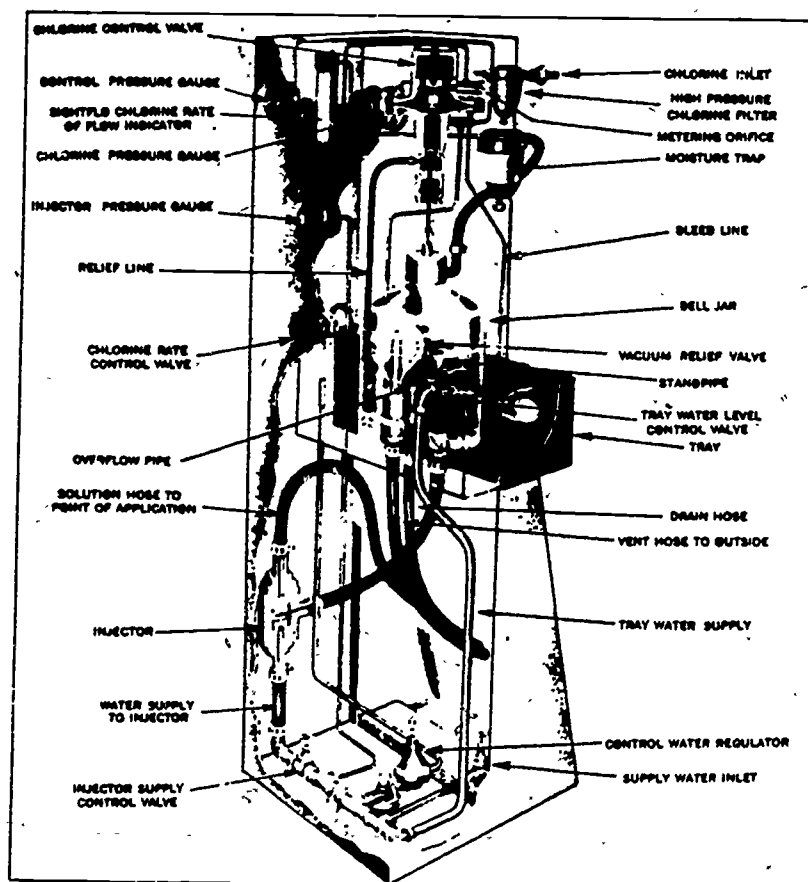

Figure 1. Rear View of Vacuum Type Gas Chlorinator
(2) **Examine Solution Tube.** Check tubing for abrasion or cracking that might cause leaks. Inspect tubing for kinks or for mineral deposits restricting discharge. Remove iron or manganese deposits restricting discharge. Remove iron or manganese deposits from diffuser tube by adding ten percent solution of hexameta-phosphate or septa-phosphate to make-up water, at rate of one drop per minute. To add reagent, attach rubber hose to the bottle containing treatment solution, and place a pinch clamp on rubber hose. Invert bottle and adjust pinch clamp for proper feed rate. Continue until deposit is removed. (See figure 1.)